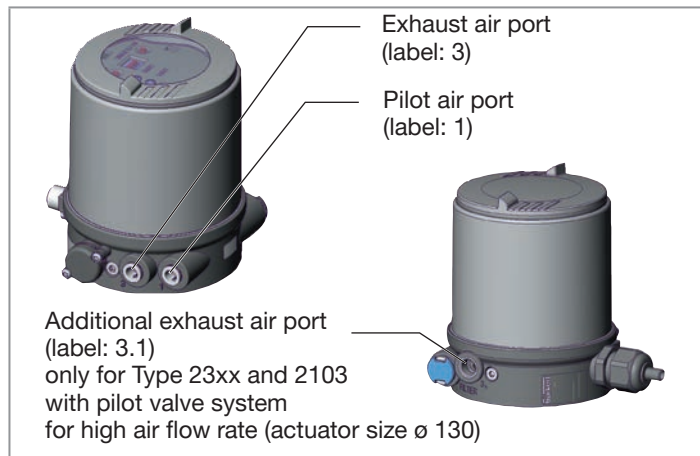

Fig. 9: Pneumatic connection
- Connect the control medium to the pilot air port (1) (3 – 7 bar; instrument air, free of oil, water and dust).
- Attach the exhaust air line or a silencer to the exhaust air port (3) and, if available to the exhaust air port (3.1) (see “Fig. 9”).